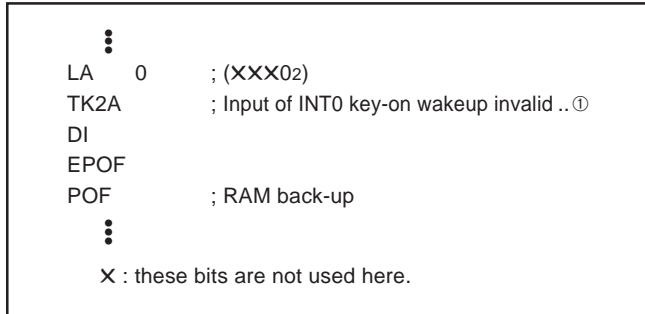

Fig. 19 External 0 interrupt program example-2
- When the input of INT0 pin is disabled (register I13 = "0"), set the key-on wakeup function to be invalid (register K20 = "0") before system enters to the RAM back-up mode. (refer to Figure 19①).